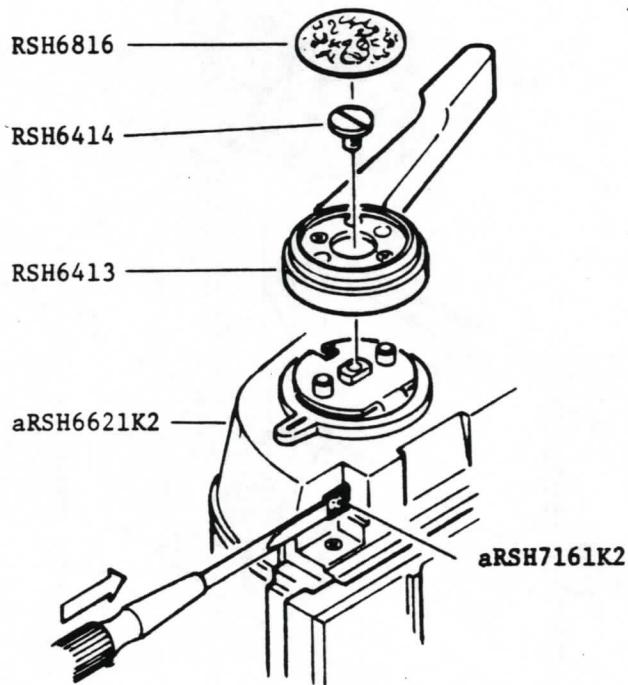

Fig. 99
(1) Remove Winding lever (RSH6413) and Top cover retaining screws (PB1.7x3, PB1.7x4).
(2) Remove Top cover (aRSH6621K2) pushing Preventive lever assy. (RSH7161K2) with a screw driver as shown in Fig. 99.